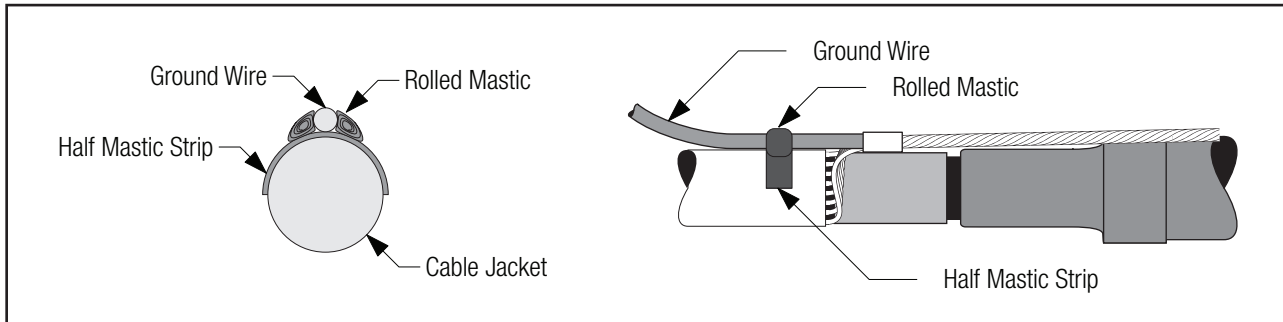

Figure 22
- 6.2 Cut one mastic sealing strip into two equal pieces. Place one piece on the cable jacket centered under the ground wire, near the jacket end. Roll the two remaining full length mastic strips into small rolls. Place one roll on each side of the ground wire (*Figure 22*).